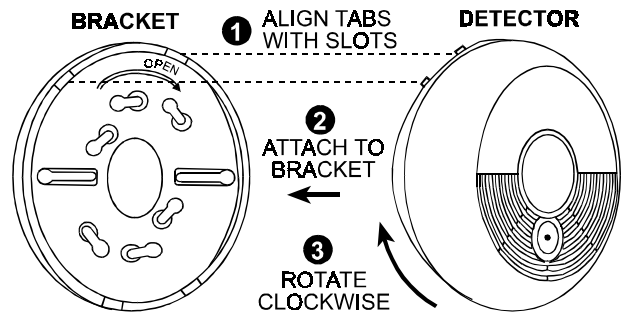

Figure 8. Final Assembly
- C. Attach the detector to the bracket as shown in Figure 8. Pull outward to make sure that the detector is securely attached to the bracket.